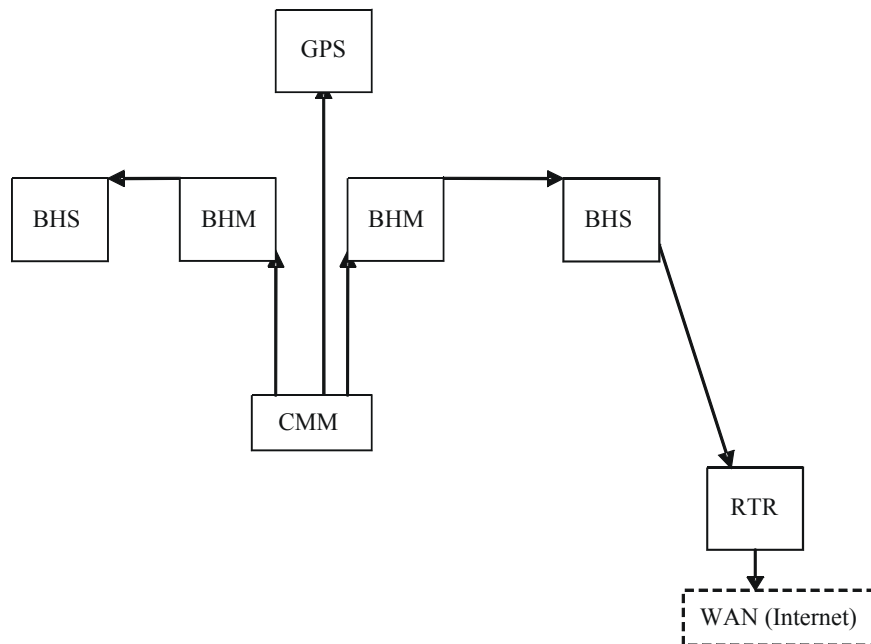

Figure 36: Typical multiple-BH network layout
- Figure 36: Typical multiple-BH network layout